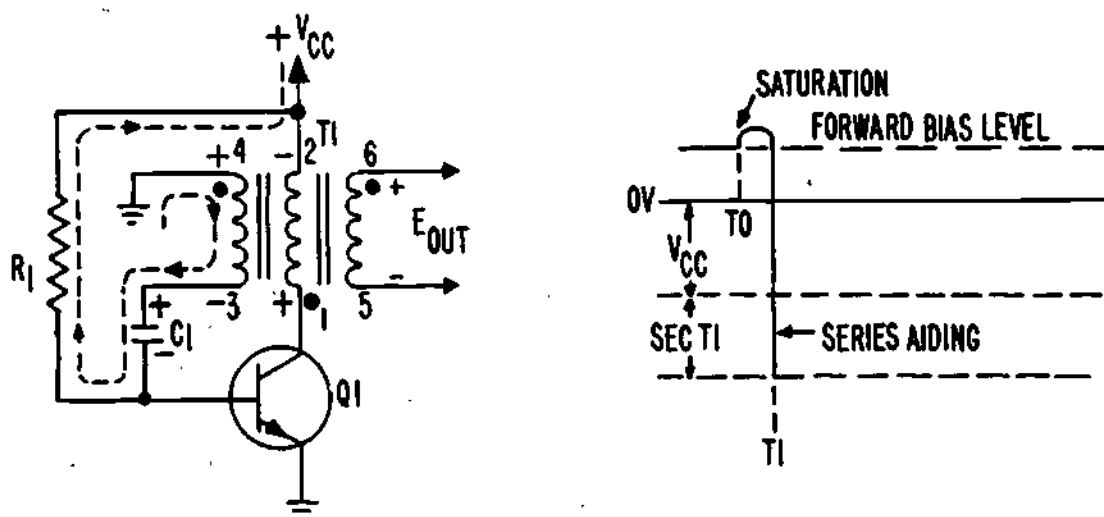

Figure 9
12. The schematic shown in Figure 9 is also for a blocking oscillator. In addition to the schematic, a waveform is also shown. This waveform indicates the effect a complete charge on C1 has on the transistor.